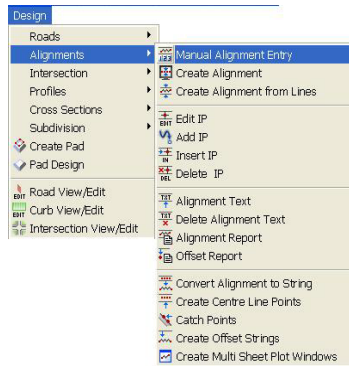

Figure 13-17. Design Menu – Alignments Options
2. Click **Design** ▶ **Alignments** ▶ **Manual Alignment Entry** (Figure 13-17 on page 13-15).